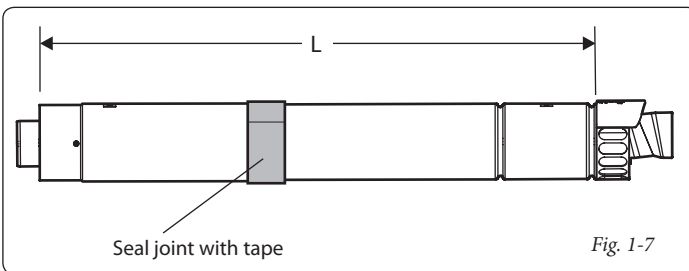

Fig. 1-7
- Determine the overall length (L) of flue required, (see Fig. 1-7) as follows:-